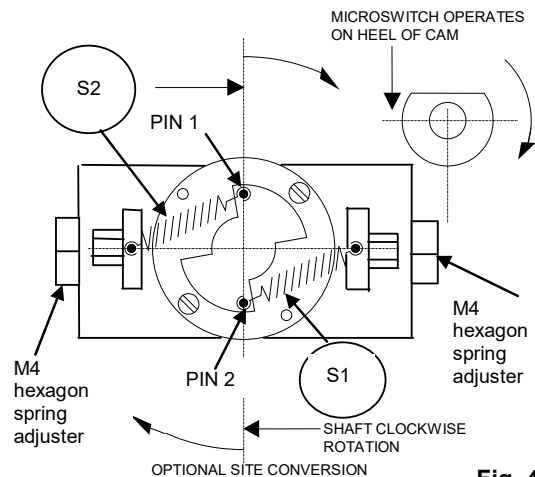

Fig. 4
Set point adjustments (Model 131) (See fig. 4):
Changing direction of flow (Model 131) (See fig. 4, 5):
If when installed the direction of operation is wrong this can be reversed in situ as follows (refer to figs 4 & 5):
2. Remove two M3 screws and reassemble plate P as shown in fig 4.